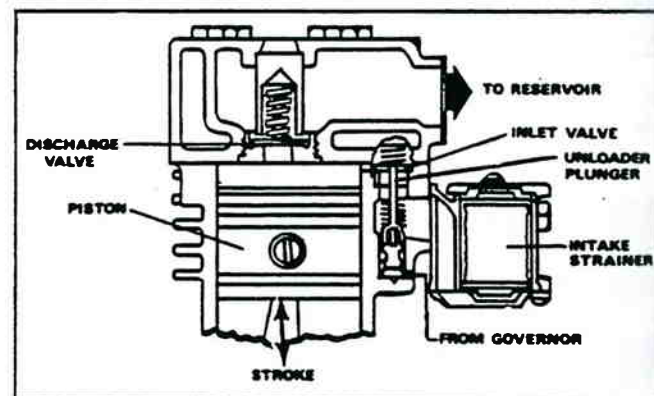

Figure 4-9. Unloading.
**C. INLET VALVES HELD OFF THEIR SEATS:** Air is merely pumped back and forth between the two cylinders (figure 4-9). When air is used from the reservoir and the pressure drops to low pressure setting of the governor, the governor closes and in doing so exhausts the air from beneath the unloader pistons. The unloader saddle spring forces the saddle, pistons and plungers down and the inlet valves return to their seats. Compression is then resumed.